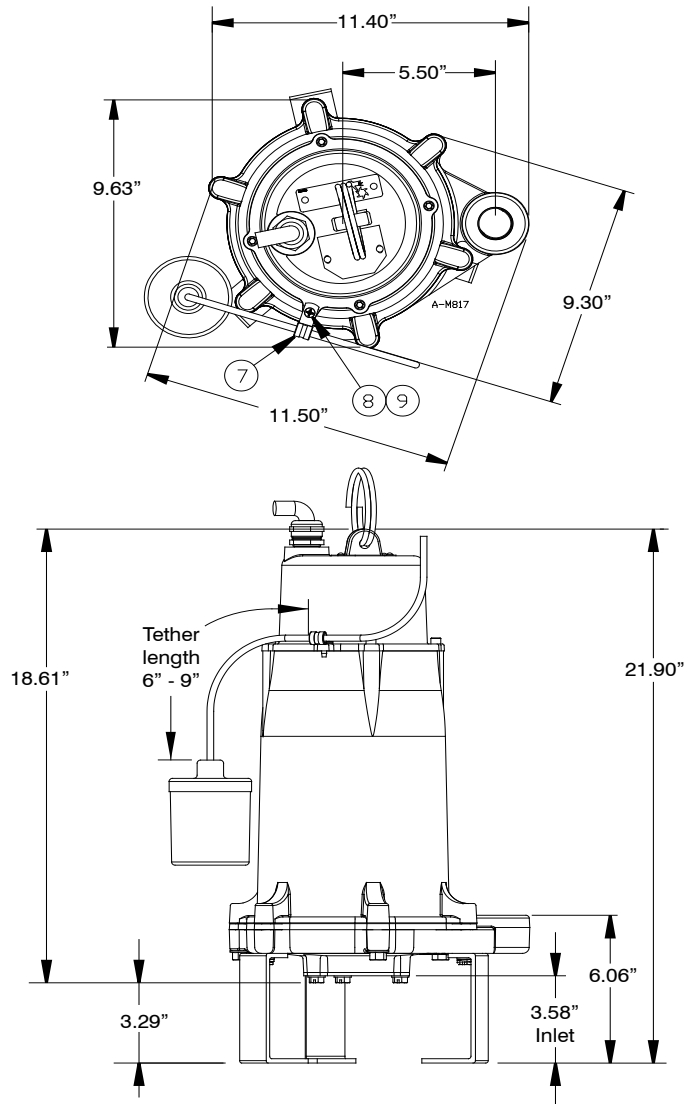

Figure 6
13. Confirm that there is no foreign material on the seal ring or in the motor housing gland for the seal ring. Re-install the cover by gently rotating it onto the motor housing. This will allow the wires to fall inside the housing without binding between the capacitors and the cover. Ensure that the float switch is properly located (Figure 6), then install the four 3/16" capacitor housing cover screws.
6. Adjust the tether length to between 6" and 9" (Figure 6). If necessary, adjust the direction or angle that the power cord exits the pump.